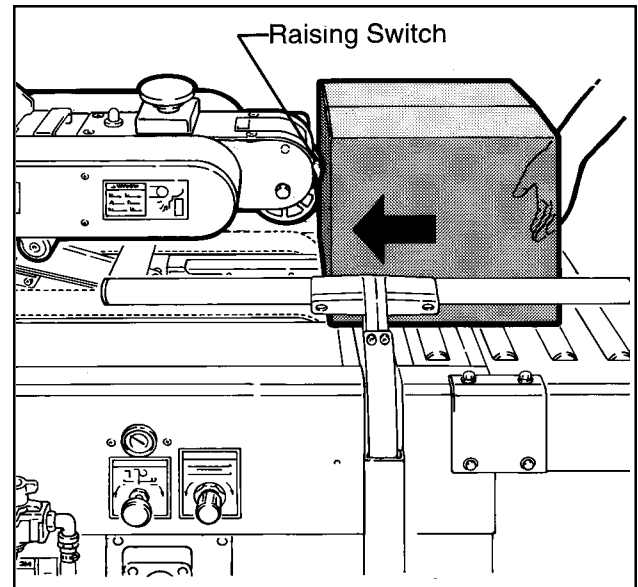

Figure 3-8 – Drive Assembly Raising Switch
2. Once the box is centered by the guides, the operator pushes the box against the raising switch on the upper drive assembly, as shown in Figure 3-8, causing the upper taping head to be raised by two air cylinders. The upper taping head will continue to rise above the box height so the operator can insert the box underneath the upper drive belts.